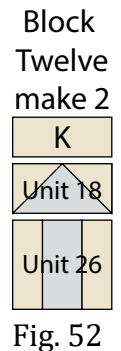

Fig. 44
16. Sew (1) 2" x 5" Fabric K strip to each side of (1) 2 1/2" x 5" Fabric E strip lengthwise to make (1) Unit 26 rectangle (Fig. 44). Repeat to make a second Unit 26 rectangle.